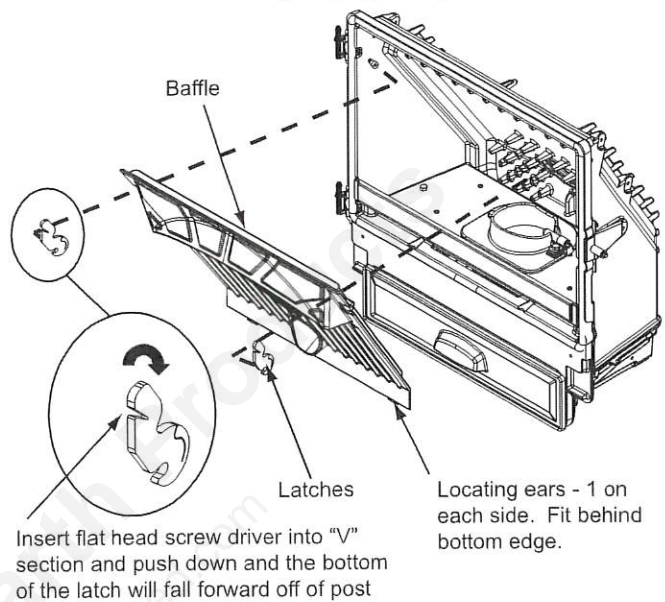

Figure 3
4. It is easier to remove the bolts on the fire pot with the baffle removed. To remove the baffle, place a flat head screwdriver into the slot of the latches located in the upper corners and push down. The bottom of the latch will fall forward off the post. Lift the baffle up and then out toward you (**Figure 3**).
- Place the 2 locating ears behind the bottom edge and tilt the baffle up and into place (**Figure 3 on page 2**).